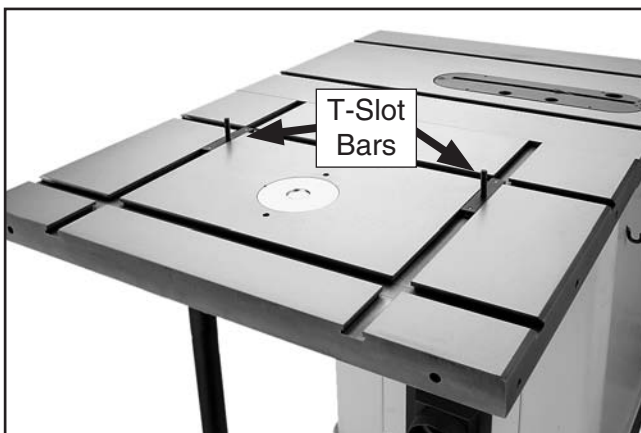

Figure 13. T-slot bars installed.
9. Slide the two T-slot bars into the T-slots of the router table (see **Figure 13**).